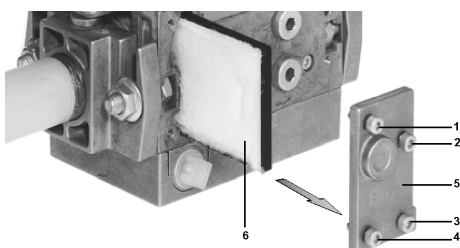

Fig. 24
- 2 Remove screws 1 ÷ 4 using the Allen key n. 3 and remove filter cover 5 in Fig. 24.